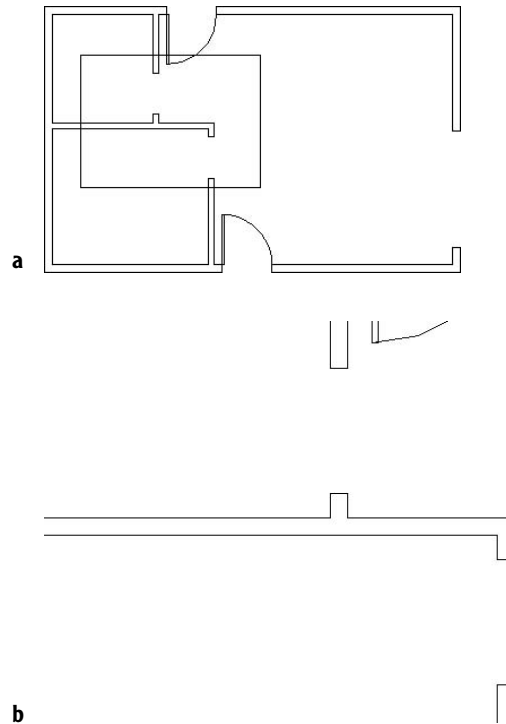

FIGURE 4.37: A zoom window in the interior door opening area (a), and the results of the zoom (b)
1. Click the Zoom Previous button on the Standard toolbar. Then click the Zoom Window button right next to the Zoom Previous button, and make a zoom window to magnify the view of the interior door openings. Be sure to make the zoom window large enough to leave some room for the new doors to be drawn (see Figure 4.37).